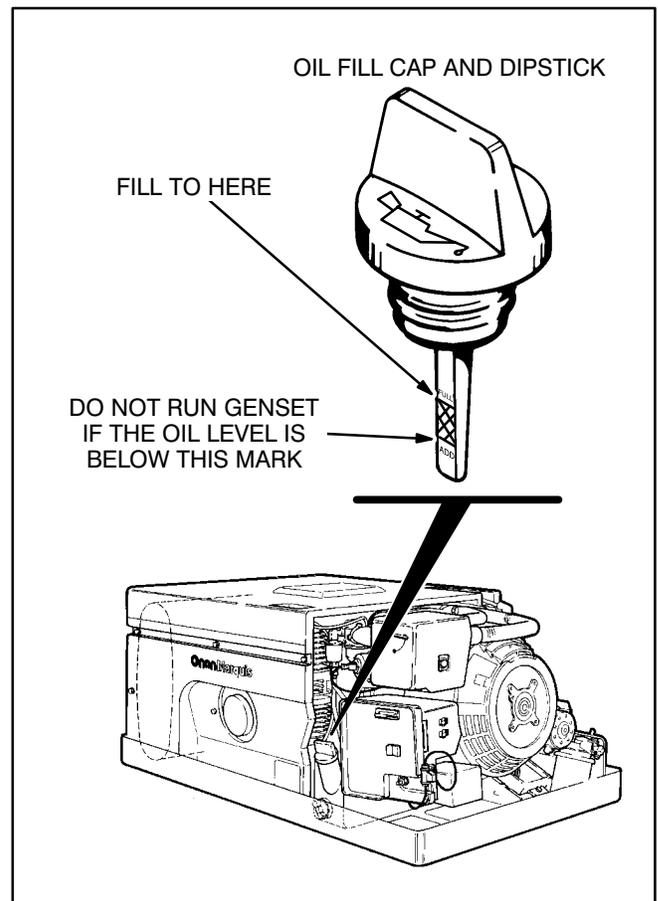

FIGURE 12. OIL LEVEL CHECK
1. Unscrew the oil fill cap and wipe the oil off the dipstick (Figure 12). Screw the cap back on, remove it again and check the oil level on the dipstick.
See Table 4 for scheduled spark plug replacement. (The genset has two spark plugs, Figure 12.) The spark plugs must be in good condition for proper engine starting and performance. A spark plug that fouls frequently or has heavy soot deposits indicates the need for engine service. See *Troubleshooting*.